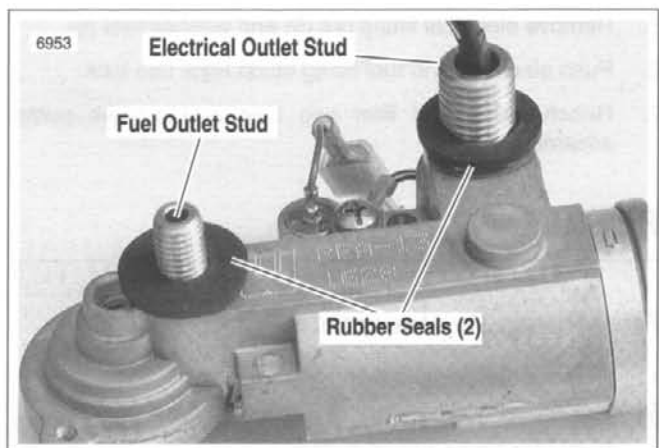

Figure 4-99. Rubber Seals
1. See Figure 4-99. Check rubber seals on electrical and fuel outlet studs that go through tank.